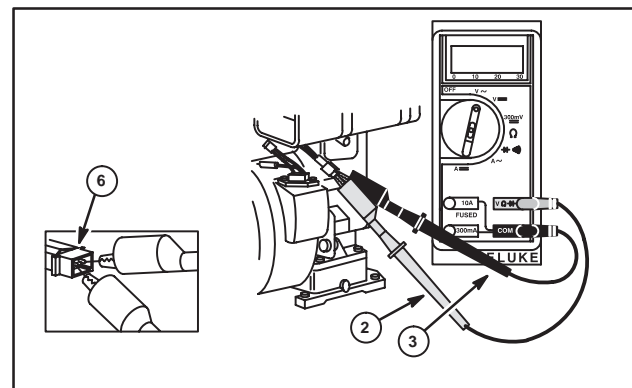

Fig. 20
a. (Quad Circuit and 10 & 16 amp Regulated Alternators) Insert RED (2) and BLACK (3) test lead probes into output terminals in yellow connector (6), as shown in Fig. 20. (Meter test clip leads may be attached to either terminal.)